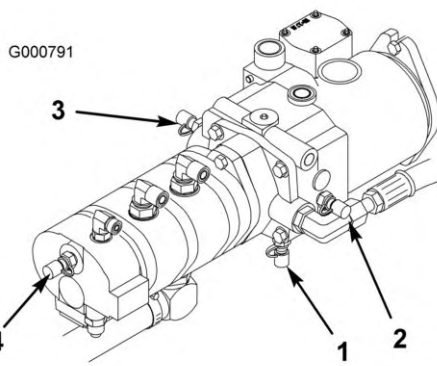

Figure 83
4. Test Port D is located on the bottom of the hydrostatic transmission (Figure 83) and is used to measure the charge pressure of the transmission.
5. Test Port E is used to measure traction forward pressure (Figure 83).
6. Test Port F is used to measure traction reverse pressure (Figure 83).
7. Test Port G is used to measure steering circuit pressure (Figure 83).